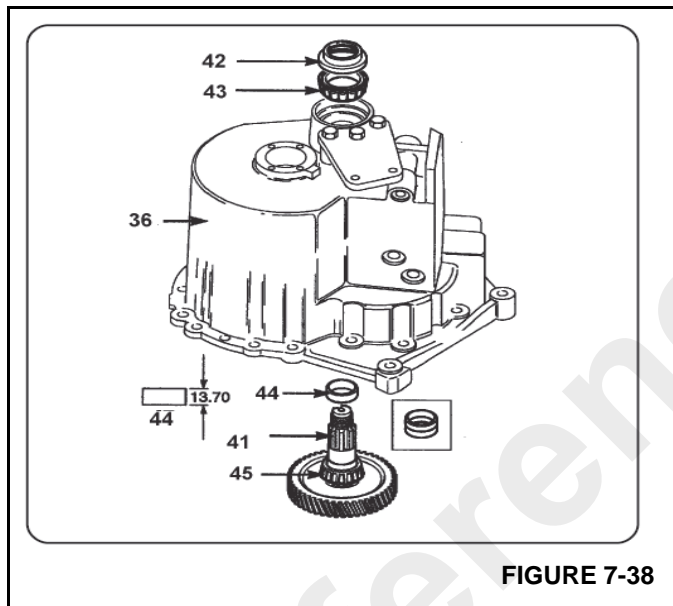

FIGURE 7-38
2. Lightly oil output shaft inner bearing (45, Figure 7-38) and cup and install to output shaft 41.
- c. The solid spacer (44, Figure 7-38) is 13.70 mm thick.
- c. To select the right size spacer 44, Figure 7-38 subtract the end play obtained at step B from the solid spacer 44 (13.70 mm). Also, subtract 0.120 mm to allow for bearing tolerances and pre-load. If there is no spacer of this size, install the next smallest spacer.
NOTE: In order to remove bearing 43, the output shaft 41, Figure 7-38 must be removed. Due to ratio options some transmissions feature a larger diameter output gear. When removing the output shaft the gear may contact the gearbox housing, preventing removal. For shaft removal procedure, see Output Shaft (Larger Diameter Gear).